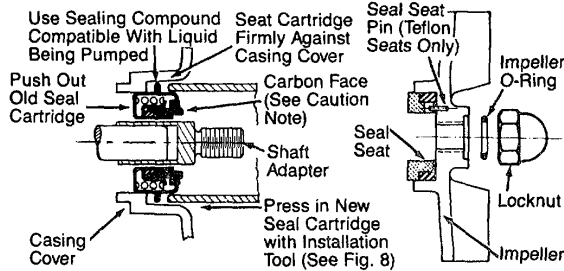
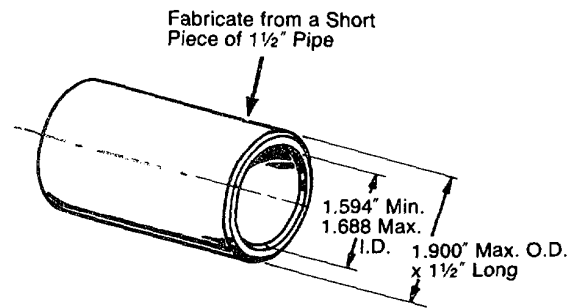

Figure 7. Mechanical Seal Replacement (Teflon Seal Shown)
Figure 8 - Seal Installation Tool
Should the mechanical seal, which consists of seal cartridge (Ref. No. 11) and seal seat (Ref. No. 12) require replacement, proceed as follows and refer to Figures 7, 8, and 9.
8. Apply a light coat of sealing compound to new seal cartridge (See Figure 7) and press it into the casing cover recess using the proper size tube or installation tool (See Figure 8). DO NOT press on carbon face or top of metal cup of the seal cartridge. Install using flange only.